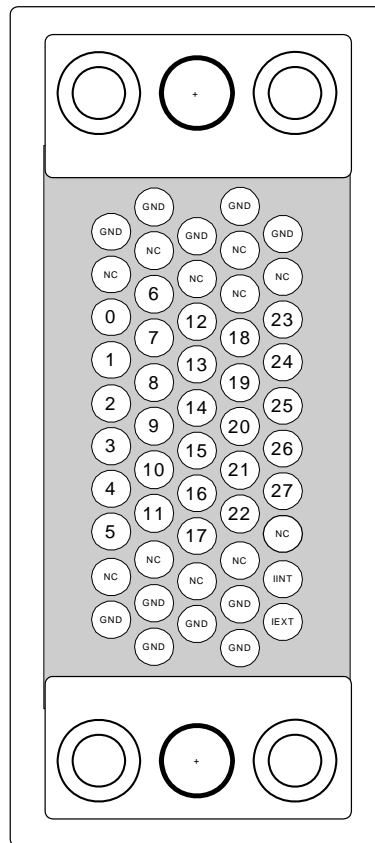

Fig. 2.2 – Mod. A 1733B – A 1833B HV Multipin Connector
Multipin connector Radiall 691803004-type, 52 pin male (to be mated with Radiall 691802002-type⁴ [SCEM 09.41.34.700.2]); see Fig. 2.2 for pin assignment.
- **Mod. A 1733B – A 1833B:** provide short circuit between Pin 51 and Pin 52 (IINT and IEXT) of the HV Multipin Connector (see Fig. 2.2); this is a safety feature to verify that the connector is plugged and the channels are connected to their loads (see § 2.4.2). This operation is not necessary if the S1 pins on the PCB are short circuited.